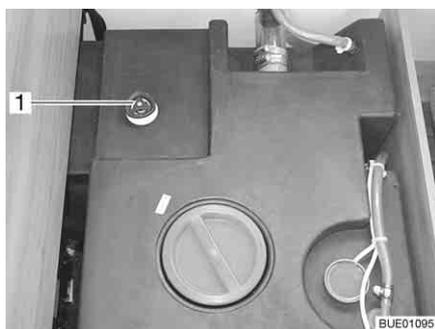
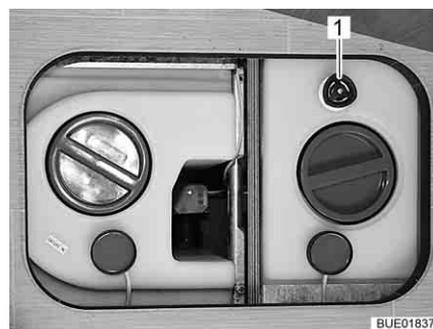

Fig. 233 Water tank with handle (Viseo)
Fig. 234 Water tank with handle (Elegance)
- Turn the handle (Fig. 233,1 or Fig. 234,1) on the water tank in an anticlockwise direction as far as possible beyond the resistance to fully open the drainage opening.